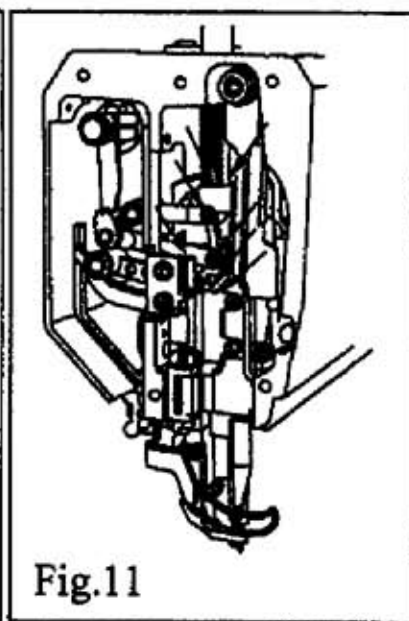

Fig.11
(4) Oiling the head (Fig.11)
1) Take off the cover and oil all the bearing and sliding positions shown in fig 11 twice weekly.